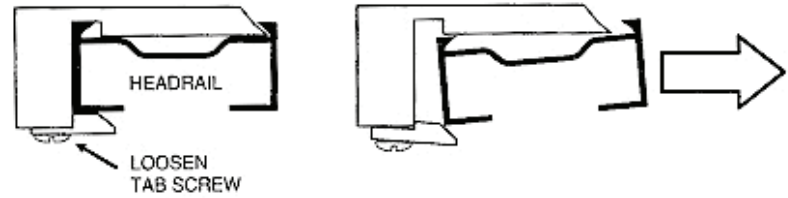

Figure 1: Loosen the tab screw and tilt the back of the headrail down to remove the shade assembly from the installation brackets.
Remove the shade assembly from the installation brackets: Raise the shade all the way to compress the fabric. Loosen the tab screw on the back of each mounting bracket. Tilt the back of the headrail down to remove the rail from the brackets (Figure 1). Place the shade assembly on a clean work surface. Note: If you have a steel bracket without the tab screw, the shade may be removed utilizing the same tilting action shown. (If they do not include the stringing needle then get one as well).
- Wall mount: Attach the angle brackets onto the wall surface two (2) inches above the window (using the #8-3/4" Phillips screws). Then attach a mounting clip to each angle bracket using a #6-1/4" se-tapping Phillips screw. (see Figure 1)